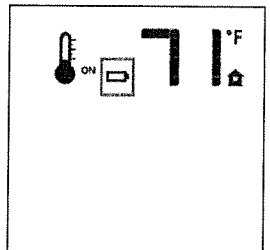

Figure 67. Low Battery
- When Transmitter batteries are low, the Battery icon will be displayed before all battery power is lost. The icon will disappear when new batteries are installed. Fig. 67.